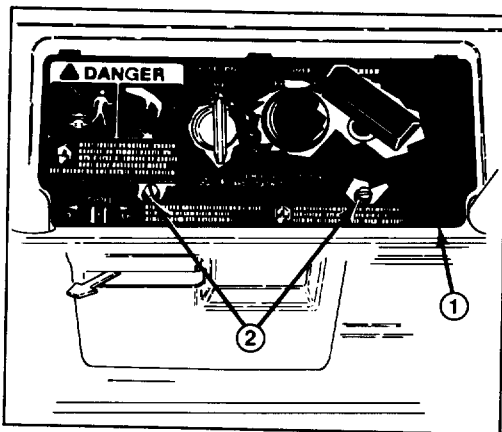

Figure 12
(Figs. 12, 13 & 14)
(Fig. 12)—Remove (2) screws securing control panel to housing. Remove ignition key and lift off panel, allowing it to hang on recoil rope.